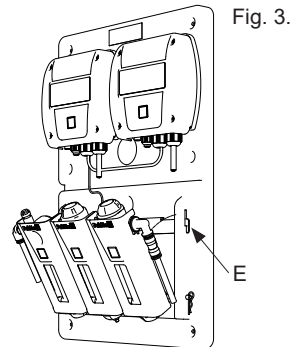

Fig. 3.
4. Release bracket (E), folding modules forward, see Fig. 3.